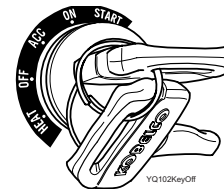

FIGURE 2.15B
- Turn the ignition switch to the OFF position to shut-down the engine. The alarm will quit sounding and the monitor display will disappear 4 seconds after the key switch is turned OFF. (Figure 2.15B)